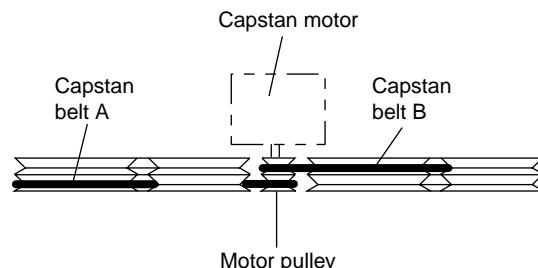

Fig.6
2. While raising the capstan motor, remove the capstan belts A and B respectively from the motor pulley (See Fig. 6).
Caution 1: Be sure to handle the capstan belts so carefully that these belts will not be stained by grease and other foreign matter. Moreover, these belts should be hand while referring to the capstan belt hanging method.(See Fig.6 and 7)